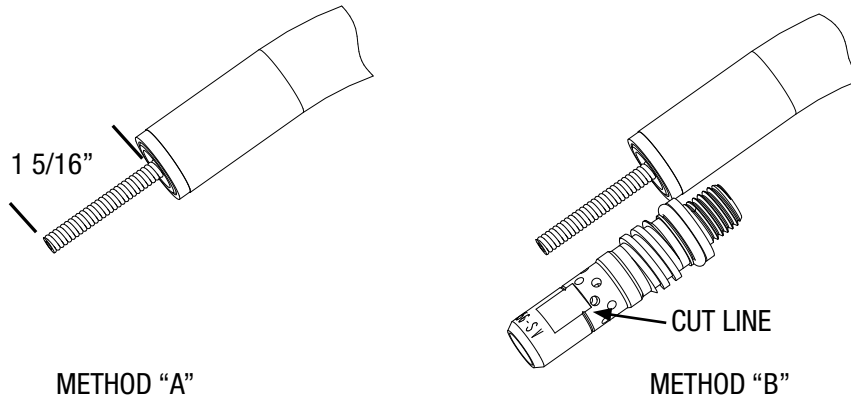

Figure 6: Conduit Cut Length
- Method “A” – Using a tape measure or scale, mark and cut the conduit to the cut length (1 5/16”). Refer to Figure 6 — Method “A”.
- Method “B” – The diffusers have a machined groove around the outer diameter. Position the diffuser as shown in Figure 6 — Method “B” and mark and cut the conduit.